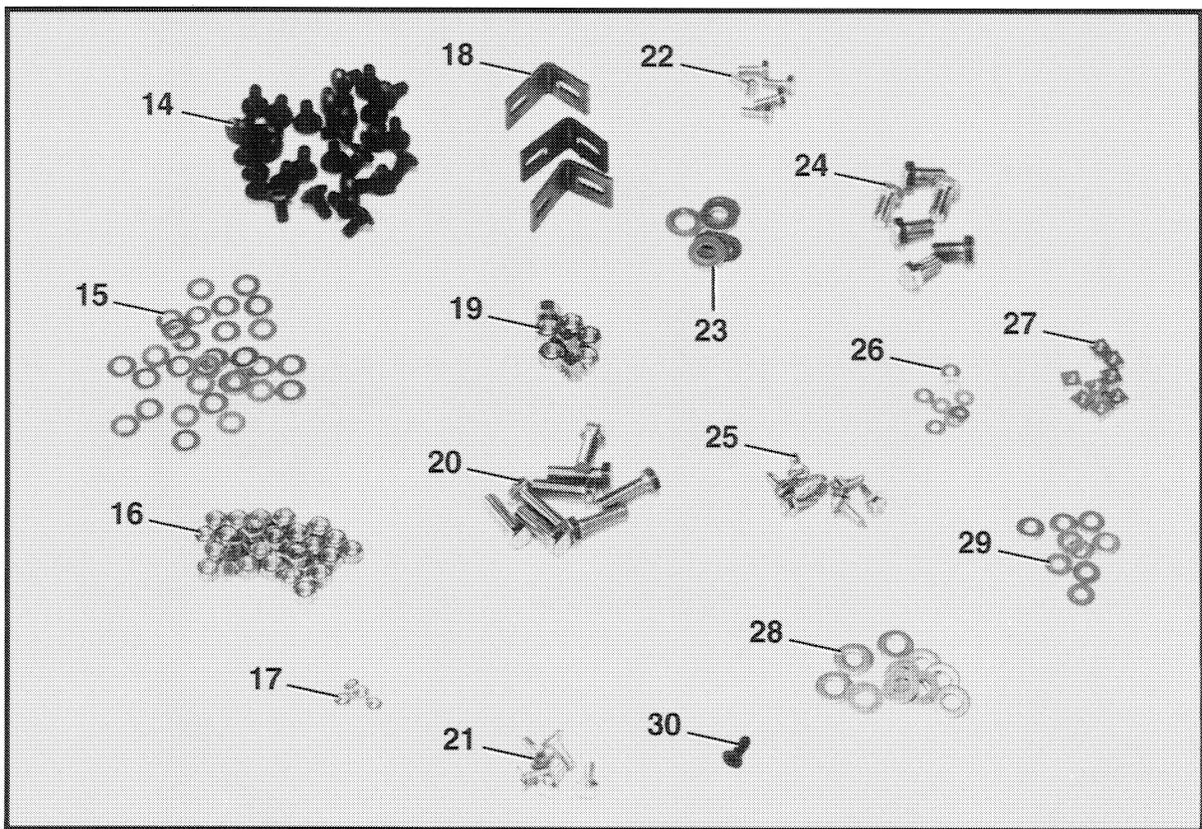
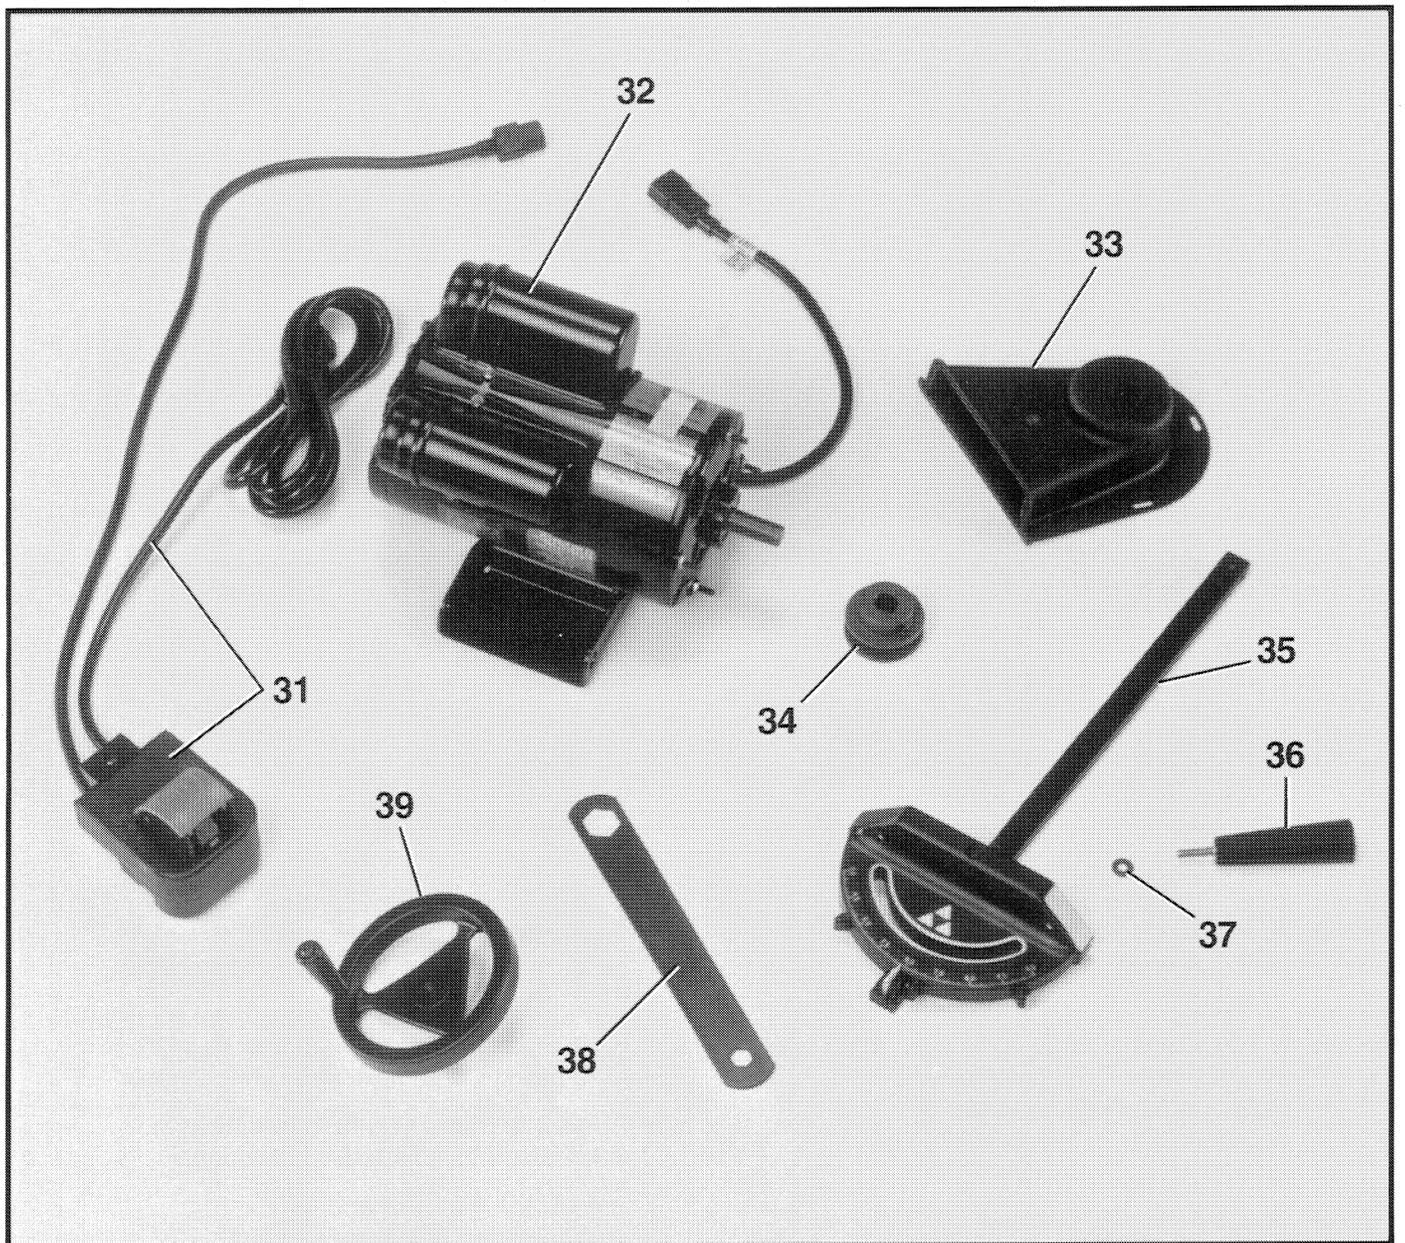

Fig. 4
Fig. 5
- * not shown in Fig. 4. Shown as item 37 in Fig. 5.